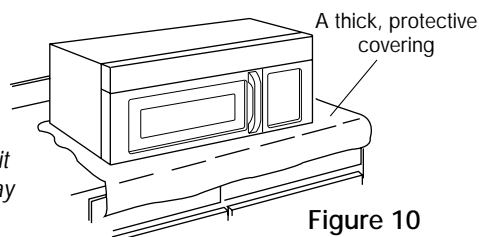

Figure 10
2. Cover the countertop or cooktop with a thick, protective covering to protect it from damage and dirt. See Figure 10.